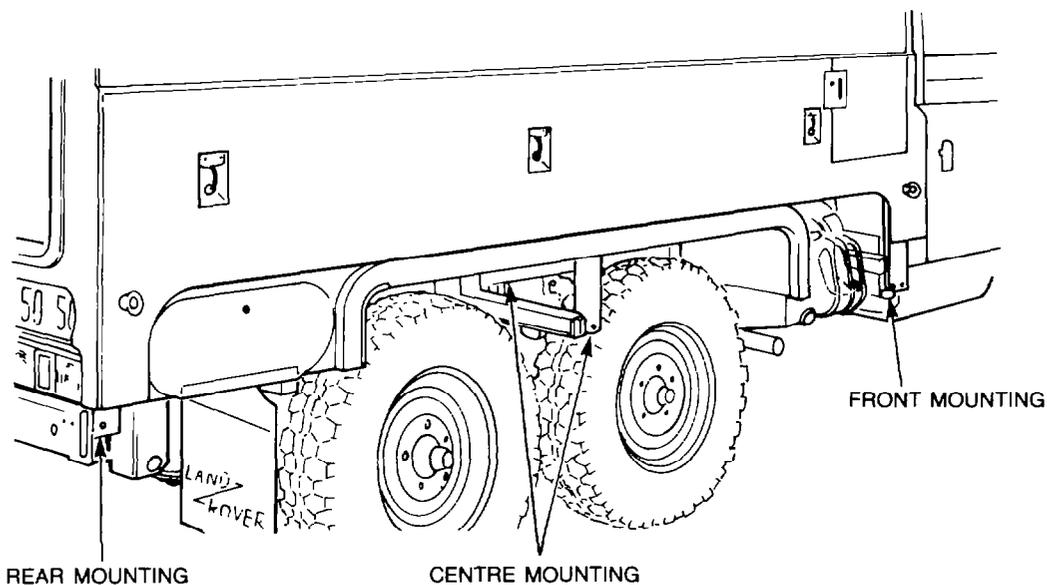

Figure 9 — Module Mounting — Removal
- j. Remove the bolts, washers and nuts securing the module to the mounting points on the frame (see Fig. 9), then remove the nuts and bolts securing the mounting to the outriggers.
stall the bolts, washers and nuts. Tighten the bolts securely (see Fig. 9).